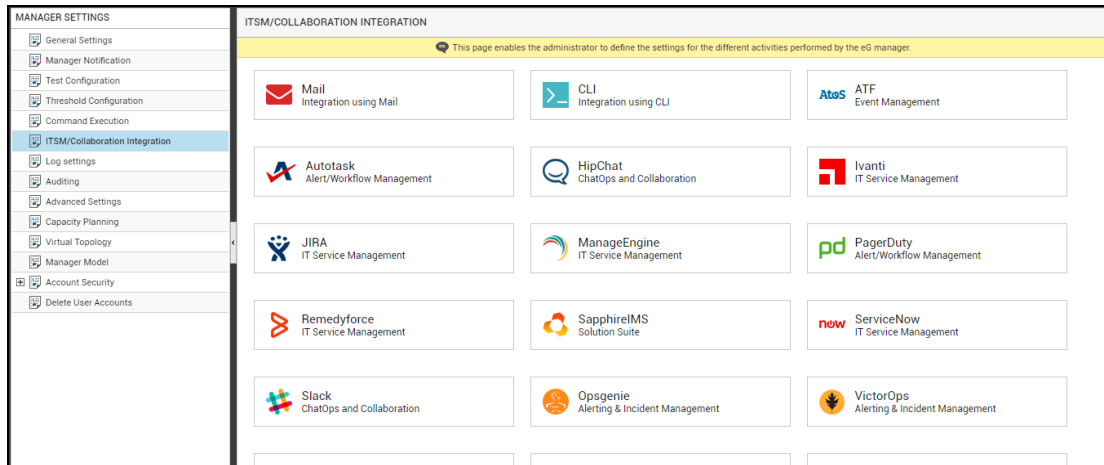

Figure 5.17: Viewing the ITSM/Collaboration tool options
3. Figure 5.17 will then appear. From the **MANAGER SETTINGS** tree in the left panel of Figure 5.17, select the **ITSM/Collaboration Integration** node. The third-party ITSM/Collaboration tools that eG Enterprise can integrate with will be listed in the right panel.
4. Now, click on the **ATF** option in the right panel (see Figure 5.17). An **ATF** section will now appear in the right panel (see Figure 5.18).